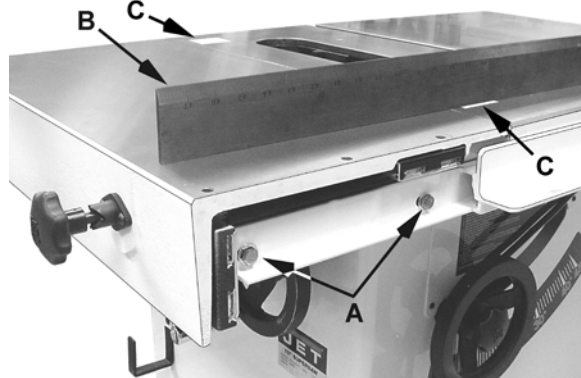

Figure 11
10. Snug the four *hex cap screws* (A, Fig. 11) but do not tighten. This will allow you to fine tune the sliding table with the jacking screws.
11. Place a flat 0.02" *shim* (C, Fig. 11) on the table saw tabletop for the *straight edge* (B, Fig. 11) to rest on. This will help keep the sliding table the right height above the top of the table saw.
15. Tighten the four *hex cap screws* (A, Fig. 11) that hold the leveling brackets in place.